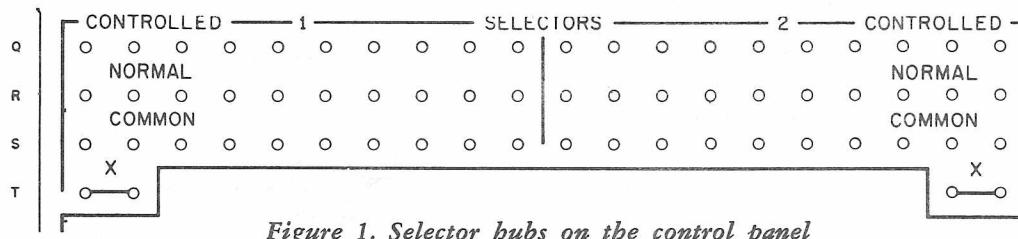
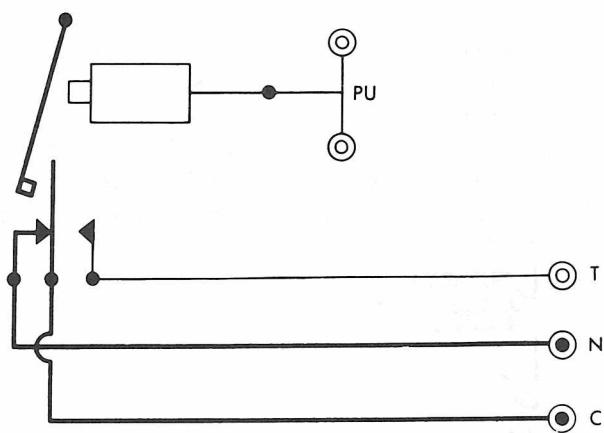

Figure 1. Selector hubs on the control panel
Figure 4. Selector and X-Pickup hubs in Normal condition.
Before we discuss the use of selectors, let us study the theory behind the use of this concept. You will notice in Figure 1 that there are 20 vertical sets of three hubs each in the selectors illustrated. The bottom row is called "Common"; the middle row is called "Normal"; and the top row is called "Controlled." Once we learn the function of any one of these 20 sets, we will understand all of them, just as once you understand how one X-Eliminator works, you can use any of them.
The device used to permit us to make a decision with an IBM machine is called a Selector. Two selectors are available with the 552 Interpreter. Their location on the control panel is immediately below the type bars. Figure 1 illustrates the Selector portion of the control, panel.
Refer to Figure 1 once again. On line T, hubs 1 & 2 and also hubs 19 & 20 are marked "X". These are referred to as "X" Pickup hubs, X-Pickup hubs are unique in that they will not recognize or accept any impulse but an impulse generated at "X" time (the time an X is being read by the reading brushes). The X-Pickup hubs are in turn connected internally to the selector magnets. Let us refer to Figures 4 and 5 below and see if we can visualize what happens internally as a selector transfers.
1. Assume that the first card passing through the machine is a NX card (this means No X in Column 21). The condition of the selector at this time is Normal. Therefore, wiring a reading brush impulse from a column into the Common hub of the selector will cause the same impulse to come out of the Normal hub. (See Figure 4.)